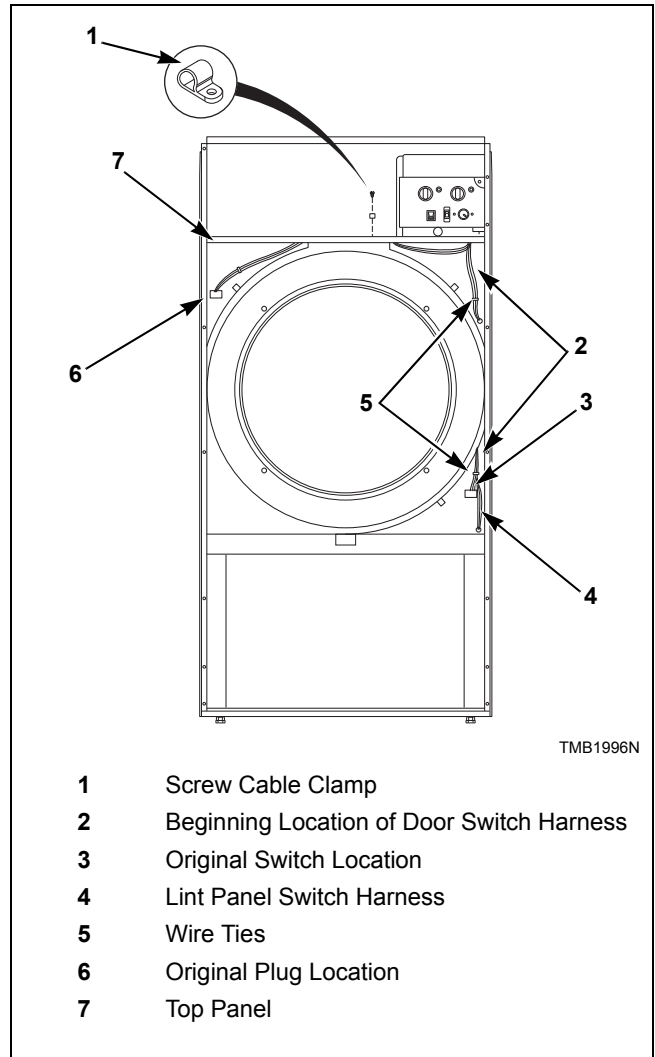

Figure 8
7. Reroute door switch harness up through top panel, along underside of front flange, through screw cable clamp, back down through top panel and into upper left quadrant of cylinder enclosure. Refer to *Figure 8*.